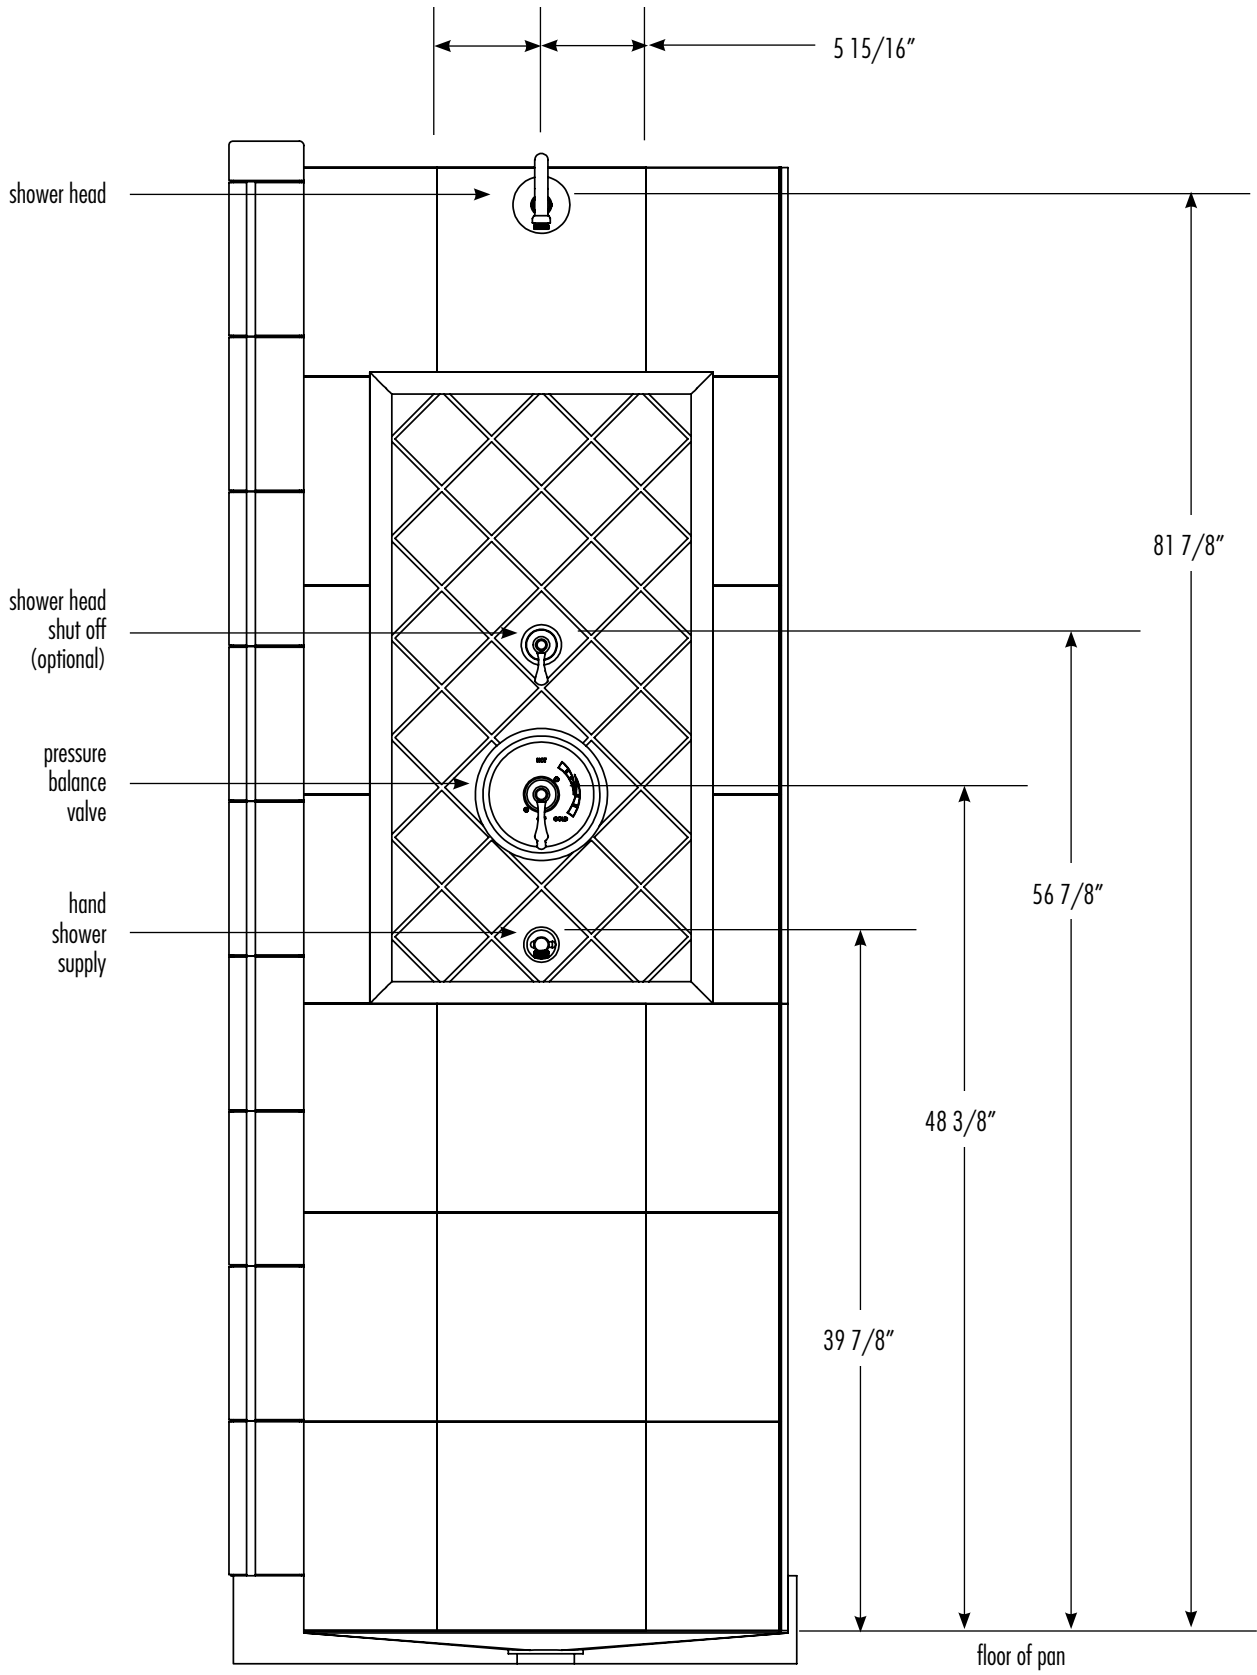

figure 7
1. Most customers who order faucet kits without ordering the Plumber's Upgrade do so in order to have flexibility in their faucet mounting locations. Refer to (fig. 7) for a recommended configuration showing approximate dimensions.